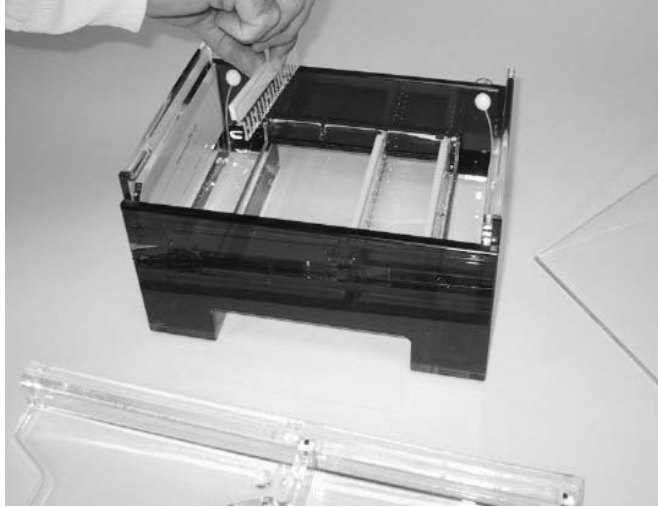

Figure 5-3. Carefully Remove Comb
2. Carefully remove the comb (or combs) by tapping lightly to loosen (Figure 5-3), and slowly lifting out, away from the gel tray, to avoid damage to the wells.